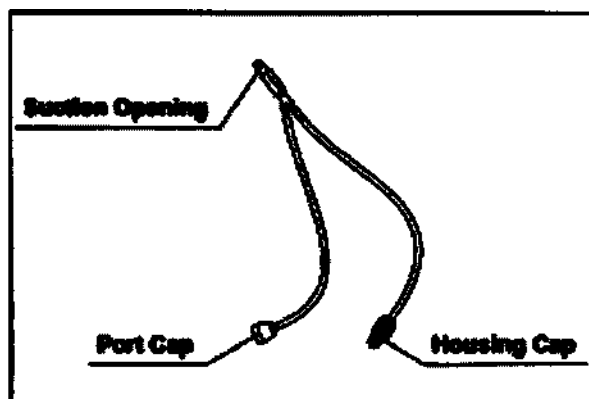

Fig7.3
2. Suction cleaning adapters are used to flush, clean, disinfect and disinfect the liquid through the injection channel and suction channel, and remove the liquid from channels. (Fig 7.3)
Confirm that the adapter is free from cracks, scratches, flaws, debris and/or other damage. (See Fig 7.3)